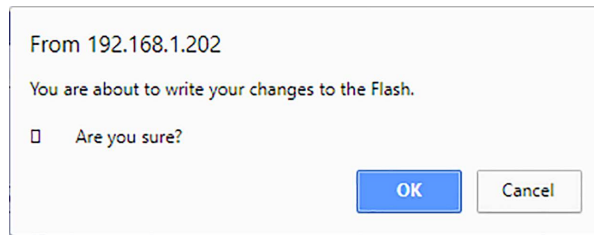

Figure 5-40 - Confirm Save Dialog
2. Click **Apply**. The following dialog appears (see Figure 5-40):